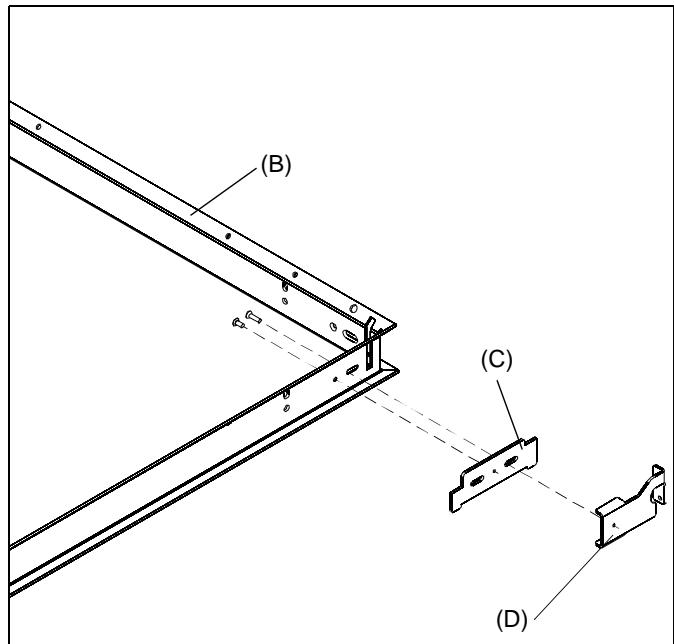

Figure 1
1. OPTIONAL: Attach vertical brackets (C) to both sides (in each corner) of the SL220 frame (B) using a 06-32 x 5/16" Phillips flat head screw (F). (See Figure 1)
2. Attach horizontal bracket (D) over the vertical bracket (C) at each corner of the SL220 frame using a 06-32 x 1/2" Phillips flat head screw (E). (See Figure 1)